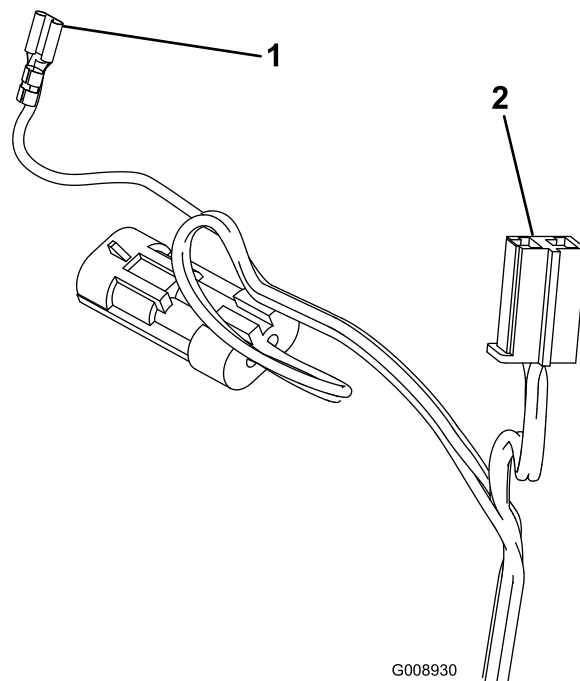

Figure 2
5. Locate the wire harness leading from the bottom of the ignition switch. Nearby will be a loose spade connector (Figure 2).